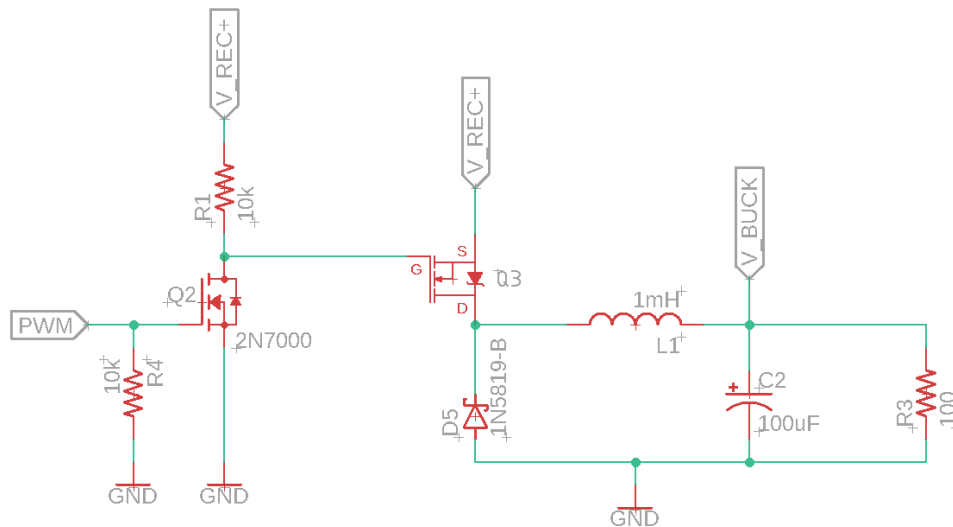

Figure 11: The simulation of the buck converter is available on Multisim. Save yourself some time and use the link provided.
In order to help you move more quickly through the lab, you can use my Multisim simulation available at this link and shown in Figure 11.
- 6) What is the role of the pair of 10k resistors, R1 and R4, in Figure 11?